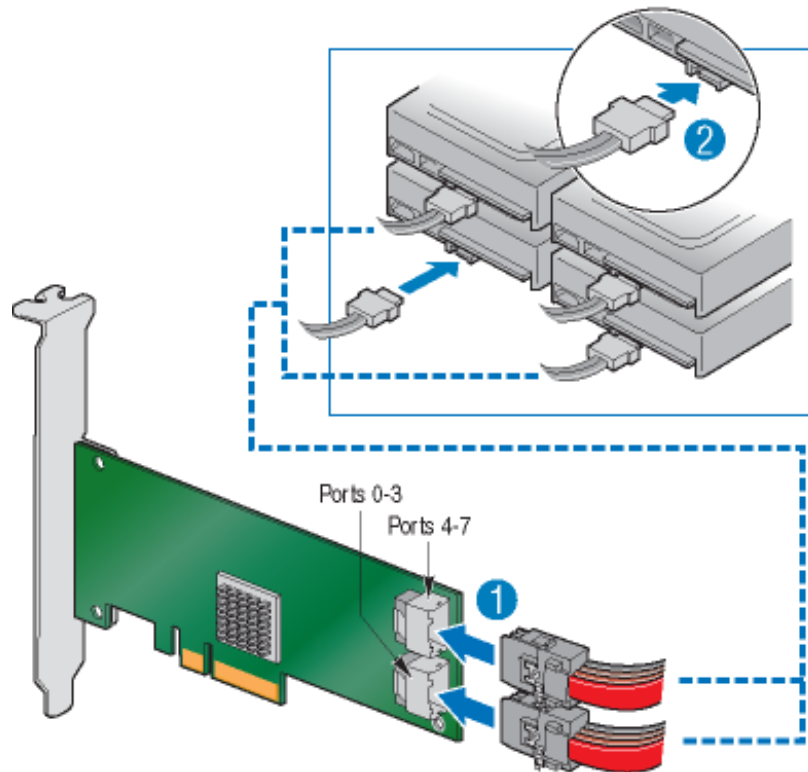

Figure 2. Attaching cables to the Intel® RAID Controller SASUC8I
5. Connect the SAS/SATA cables from the backplane (or hard drives) to the RAID Controller (see Figure 2). Make sure the cables are properly connected to the controller.